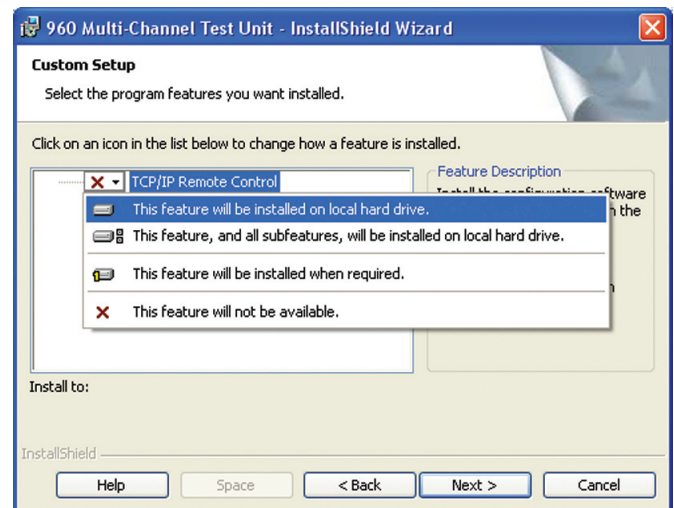

Figure 5.1.1 Custom Setup
- i. Click on the drop-down box just to the left of the text “TCP/IP Remote Control”, and select “This feature will be installed on local hard drive” as shown in Figure 5.1.1.